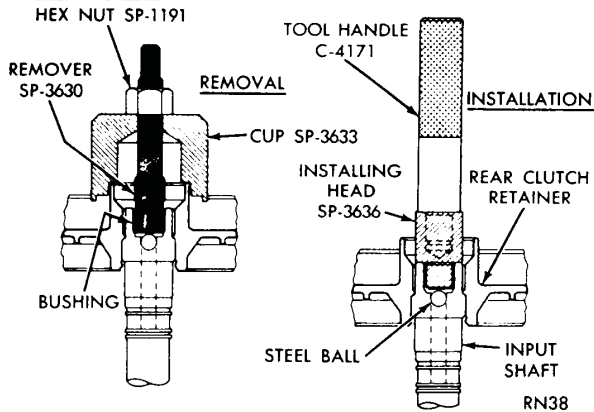

Fig. 31—Replacing Input Shaft Bushing (A-727)
(2) Assemble the remover Tool SP-3630, cup Tool SP-3633, and hex-nut Tool SP-1191 (Fig. 31).
(3) With cup held firmly against clutch piston retainer, thread remover into bushing as far as possible by hand.
(4) Using a wrench, screw remover into bushing 3 to 4 additional turns to firmly engage threads in the bushing.
(5) Turn hex nut down against cup to pull bushing from input shaft.
(6) Thoroughly clean input shaft to remove chips made by remover threads. Make certain small lubrication
(7) Slide a new bushing on installing head Tool SP-3636 and start them in the bore of input shaft.
(8) Stand input shaft upright on a clean, smooth surface and install handle Tool C-4171 in the installing head (Fig. 31). Drive bushing into shaft until tool bottoms.
(9) Thoroughly clean input shaft and clutch piston retainer before assembly and installation.